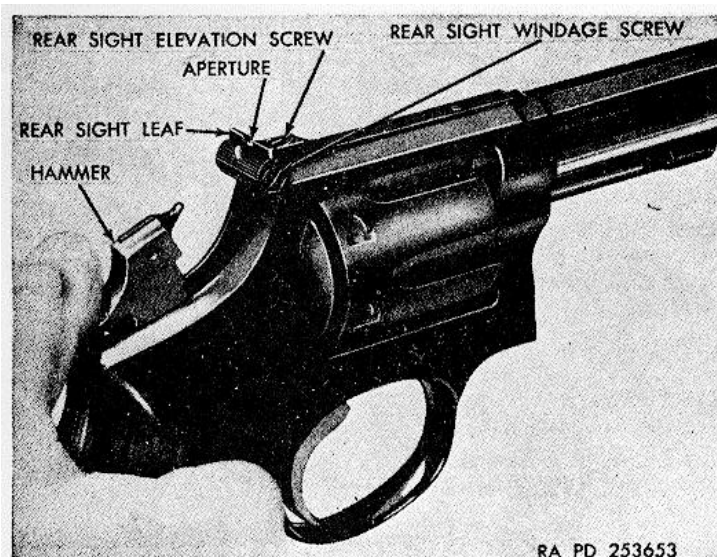
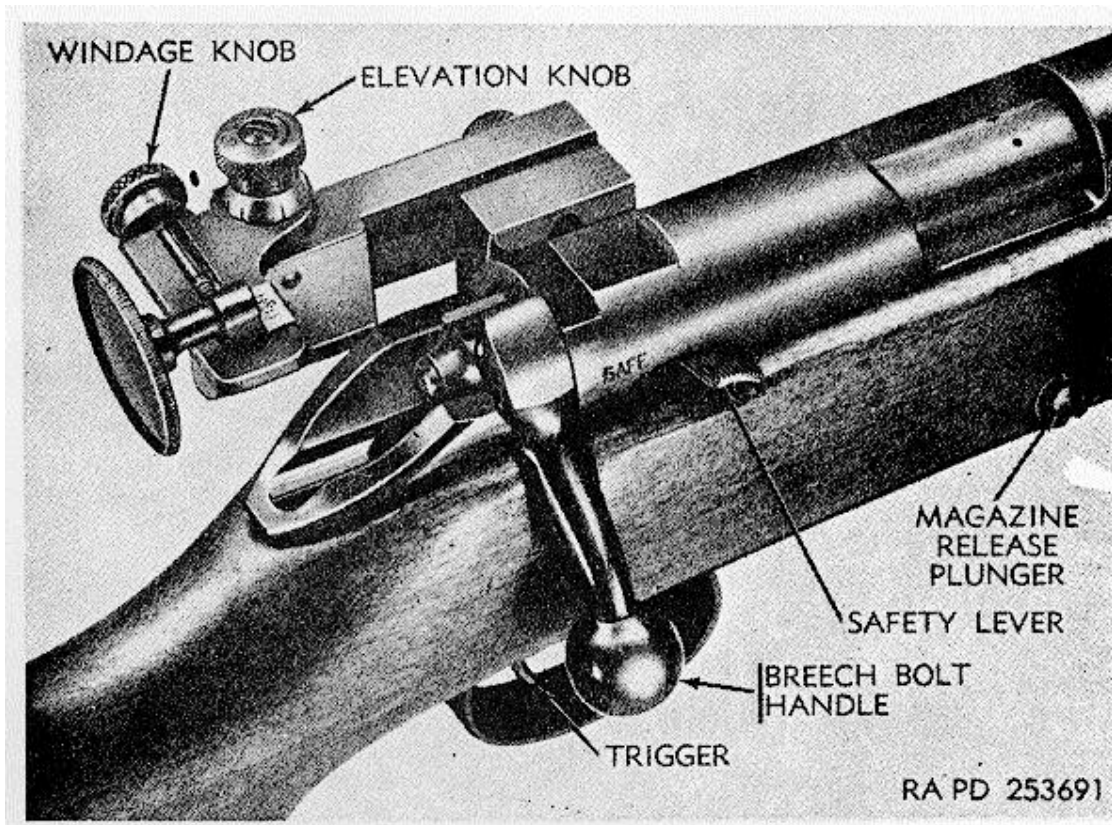
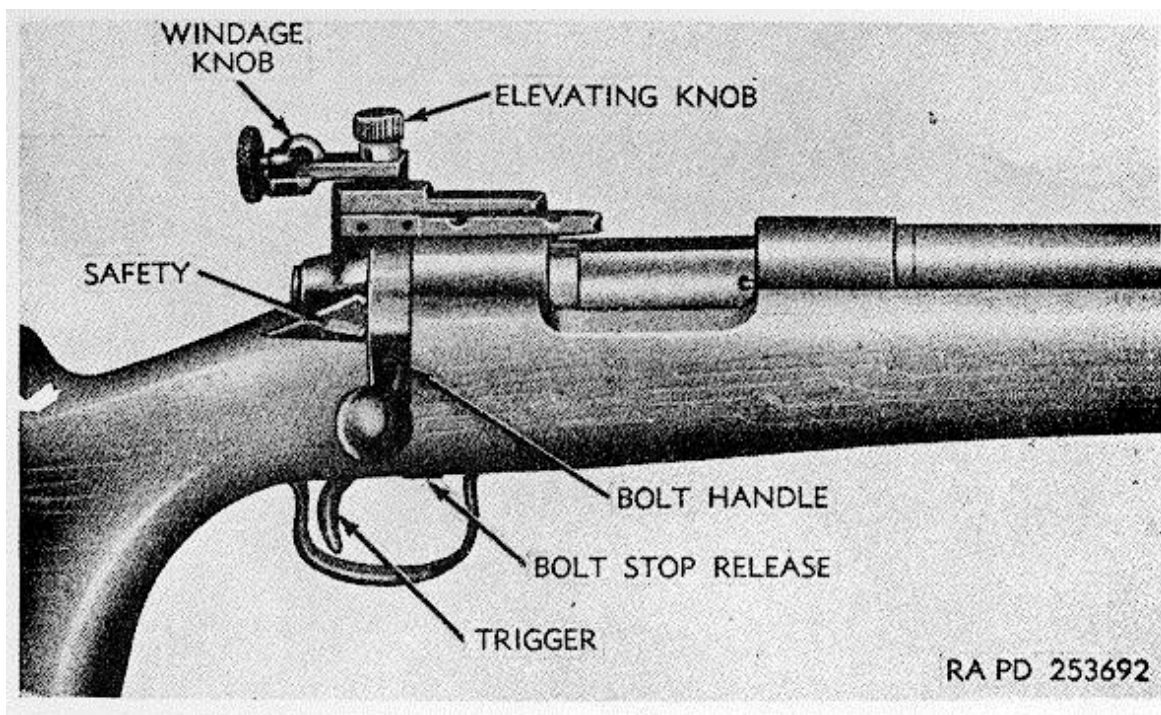

Figure 25. Cocking hammer to single action position (Smith and Wesson).
Figure 26. Controls cal..22 rifle M12 (Winchester model 52, heavy barrel).
Figure 27. Controls cal..22 rifle M12 (Remington model 40X-S1).
- (1) The hammer (fig. 25) is located at the rear of the frame above the stock. It is knurled and shaped to fit the thumb.
- (2) Depress the hammer fully downward and to the rear, to cock the revolver for single action firing.
- (3) Depressing the hammer to one-quarter full cock allows the cylinder to be rotated.
- (1) For double action firing, apply pressure to the trigger.
- (2) For firing single action, apply pressure to the trigger after the hammer has been cocked as described in *c* above.
*g. Rear Sight Elevation Screw (fig. 25).*
- (1) The rear sight elevation screw is located directly in front of the sight leaf on the rear of the frame.
- (2) Turning the screw clockwise one click, moves point of bullet impact downward 1/2 inch at a range of 25 yards.
*h. Rear Sight Windage Screw (fig. 25).*
- (1) The rear sight windage screw is located on the right side of the revolver beneath the sight leaf. A center index mark on the sight base locates the center position of the leaf.
- (2) Turning the screw clockwise one click, moves point of bullet impact 1/2 inch to the left for a range of 25 yards.
*a. Breech Bolt Handle (fig. 26).*
- (1) The breech bolt handle is located at the rear right side of the bolt assembly.
- (2) Lifting up the bolt handle cocks the firing pin.
- (3) Pulling the bolt handle and bolt assembly completely rearward extracts and ejects a cartridge.
- (4) Pushing forward on the bolt handle seats another cartridge from the magazine into the chamber.
- (5) Turning the bolt handle down will lock the breech ready for firing.
- (1) *General.* The safety lever (fig. 26) is located at the front of the bolt handle and operates on a horizontal plane. It is shaped to fit the thumb.
- (2) *Safe.* When the safety lever lock is at the rear of its slot, both the firing pin and bolt are positively locked.
- (3) *Fire.* When the safety lever is at the front of its slot, the rifle is ready to be fired.
*a. Bolt Handle (fig. 27).* Refer to paragraph 13a. After inserting a cartridge by hand, pushing forward on the bolt handle seats the cartridge in the chamber.
- (1) safety forward to the FIRE position and press up on the bolt stop release located just forward of the trigger.
- (2) Rotate bolt handle up and away from right side of receiver, and pull the bolt out of the rear of the receiver.
*d. Safety (fig. 27).*
- (1) *General.* The safety is to the rear of the bolt on the right side of the receiver.
- (2) *Safe.* The thumb piece of the safety is to the rear. With the safety in the SAFE position, the bolt handle only is located in the down position.
- (3) *Fire.* When the safety is in the FIRE position, the bolt handle can be raised to unlock the bolt and open the action for loading the weapon. Operation of the trigger will release the firing pin and fire the loaded weapon.
*e. Trigger.* The trigger (fig. 27) is located in the bottom of the stock immediately below the bolt handle
#### a. Bolt Handle (fig. 27).